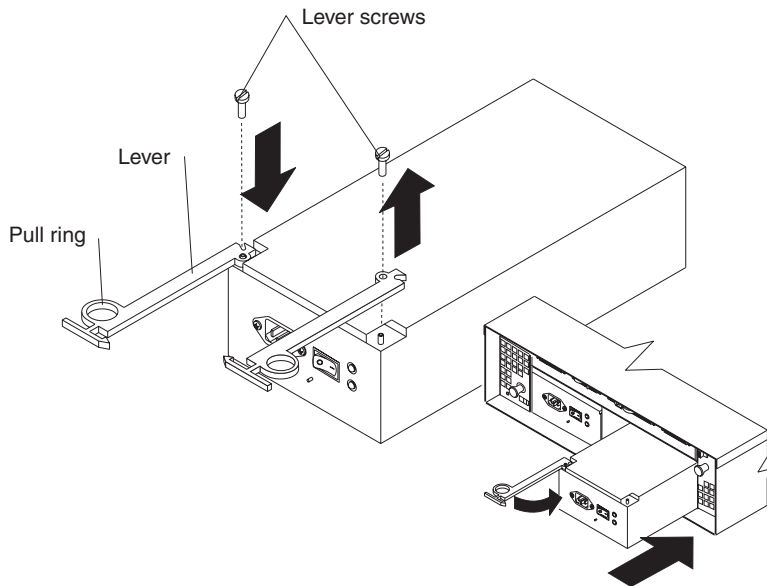

Figure 40. Moving the power supply lever and replacing the failed hot-swap power supply
**Note:** Before you replace the failed power supply, ensure that the new power supply lever is attached to the side of the power supply that faces the middle of the expansion unit. If it is not, remove the lever screw, flip the lever over, and tighten the screw on the opposite side as shown in Figure 40 on page 56.
- a. Slide the power supply into the expansion unit. Be sure that the lever is pulled straight out as you slide the power supply into the expansion unit (see Figure 40).